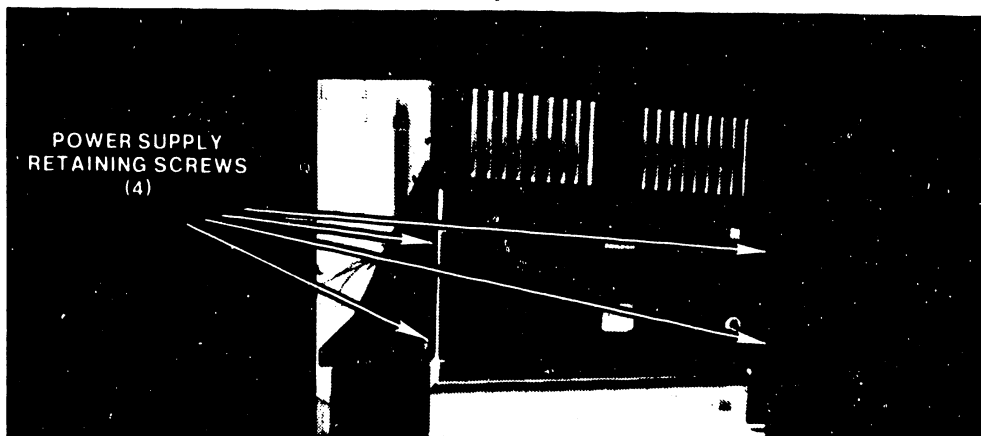

FIGURE 5 POWER SUPPLY REMOVAL
2. Remove four screws at the rear sides of the cabinet (see Figure 5) holding the power supply chassis in place.